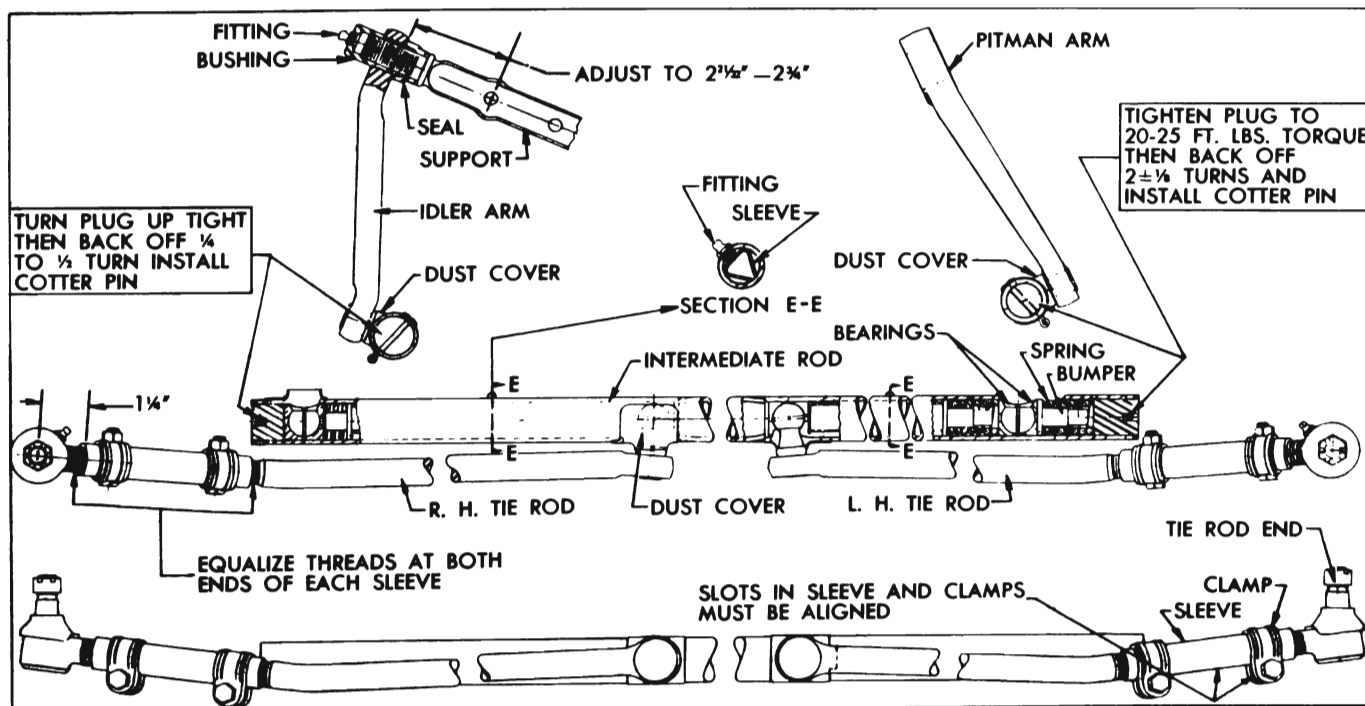

Figure 8-6—Steering Linkage
Intermediate Rod Plug Adjustments.....	See fig. 8-6
The Parallelogram type steering linkage is used to connect both front wheels to the steering gear pitman arm. As shown in figure 8-6, the right and left tie rods are connected to a tubular intermediate rod. The left end of the intermediate rod is supported by the pitman arm and the right end is supported by an idler arm which pivots on a support attached to the frame. The pitman and idler arms are always parallel with each other and move through symmetrical arcs.
transmit this spring pressure to the tie rod ball stud bearings. See figure 8-6.
Flanged steel bumpers extending through the three springs act as spring guides, permit a restricted movement of ball studs and bearings as the springs absorb road shock, and prevent the bearings from spreading and releasing the ball studs in the event of spring breakage. The spring tension and clearances at ends of bumpers are adjusted by the threaded end plugs. See figure 8-6.
The tie rod end, which connects each tie rod to a steering arm, is a spring-load ball stud and socket unit assembly. A rubber dust seal fits over the stud where it emerges from the socket, to provide protection against entrance of dirt and water. The tie rods are connected to the tie rod ends by internally threaded sleeves which provide for toe-in adjustment. The sleeves are slotted and provided with clamps at each end to lock then in place. See figure 8-6.
1. Disconnect intermediate rod from pitman arm by unscrewing end plug until bearings will release the ball stud. See figure 8-6. Check tightness of pitman arm nut with 18" wrench.
The intermediate rod must be maintained in a level position to insure good steering action. This requires proper location of the idler arm on its support so that the idler arm ball stud will be level with the pitman arm ball stud. The support must be threaded into the idler arm bushing until the distance from the center of support lower bolt hole to the nearest face of idler arm is $2\frac{1}{32}$ " to $2\frac{3}{4}$ ", as shown in figure 8-6. After any adjustment of idler arm on its support the front wheels should be checked to insure proper toe-in.
5. When connecting intermediate rod to pitman arm, adjust end plug as specified in figure 8-6.